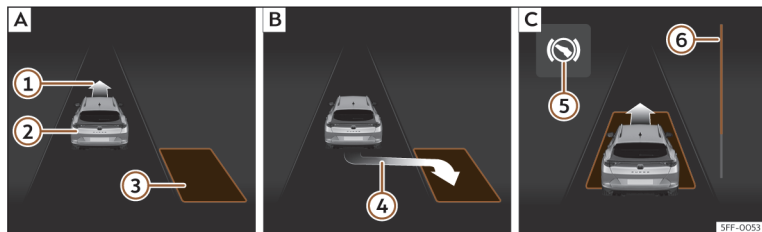
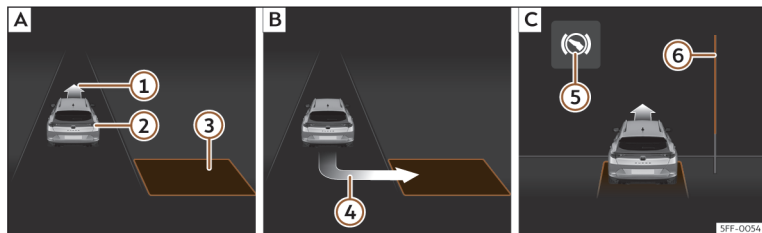

Fig. 180 On the instrument panel display: parallel parking. [A] Finding a parking space. [B] Parking position. [C] Manoeuvring.
Fig. 181 On the instrument panel display: angle parking. [A] Finding a parking space. [B] Parking position. [C] Manoeuvring.
- Look at the display on the instrument panel to see if the space has been detected as “appropriate” and if the correct position for parking has been reached»» Fig. 180 [B] or»» Fig. 181 [B]. The space is considered
- Reverse until the continuous ParkPilot signal sounds; **OR:** reverse until the indication to move forward appears on the instrument panel display >>> Fig. 180 [C] or >>> Fig. 181 [C]; **OR:** reverse until the **Park Assist finished** message appears on the instrument panel display. The progress bar [6] indicates the distance to cover >>> page 279.
- Move forward until the continuous ParkPilot signal sounds; **OR:** move forward until the reverse indication appears on the instrument panel display. The Park Assist system steers the vehicle forward and back until it centres it in the space >>> Fig. 180 [C] or >>> Fig. 181 [C].
The progress bar >>> Fig. 180 [6] and >>> Fig. 181 [6] on the screen of the instrument panel displays the relative distance to be covered. The greater the distance, the fuller the progress bar. When driving forward, the content of the progress bar decreases upwards, and when reversing, it decreases downwards.